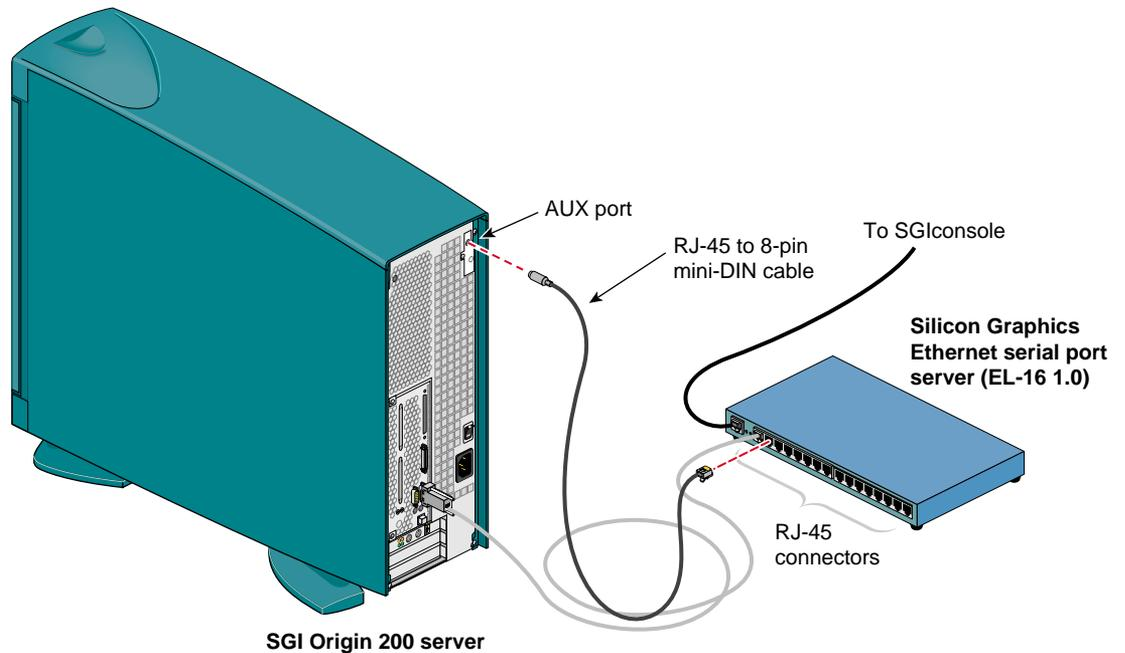

Figure 2-7 Connecting the Serial Port Server to the SGI Origin 200 Server AUX Port
6. Connect the RJ-45 end of the RJ-45-to-8-pin mini-DIN cable to one of the Silicon Graphics EL serial port server RJ-45 serial jacks. Connect the 8-pin end of the cable into the SGI Origin 200 server Aux port that connects to the server module system controller (MSC). See Figure 2-7.